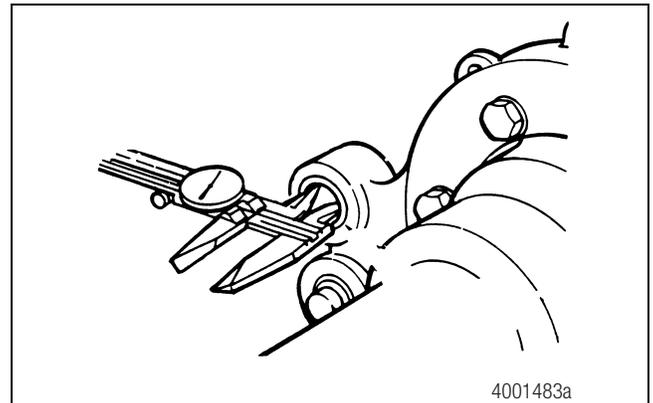

Figure 5.13
- On brakes with anchor pin bushings, the inside diameter of the bushing must not exceed 1.023-inches (26 mm). Figure 5.13.